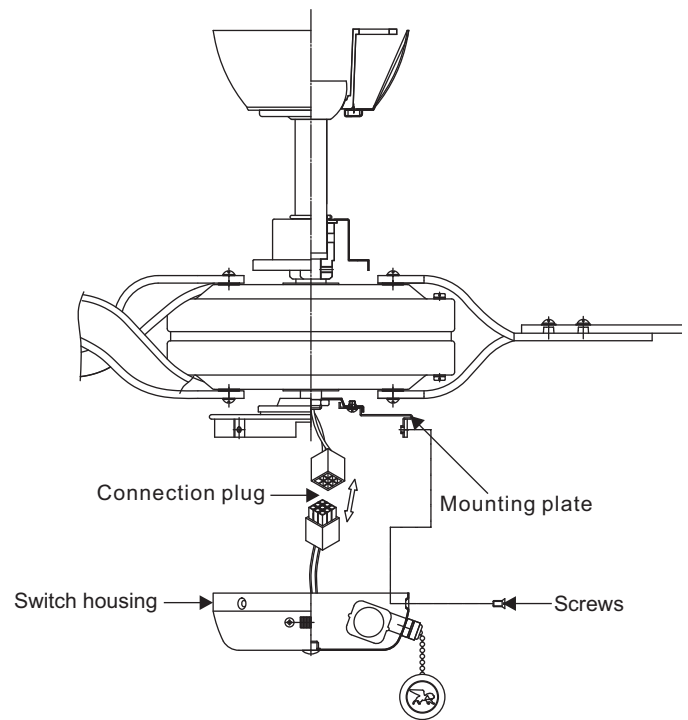

Figure 16
Step 2. While holding the switch housing under your fan, snap together the wire connection plug. (Figure 16)
Step 3. Raise the switch housing to the mounting plate until the holes in switch housing and mounting plate line up. Reinsert screws to secure in place. (Figure 16)